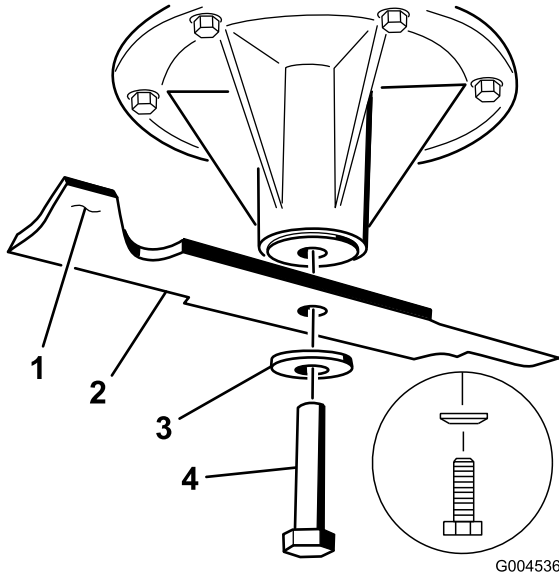

Figure 98
2. Remove the blade bolt, curved washer, and blade from the spindle shaft (Figure 98).